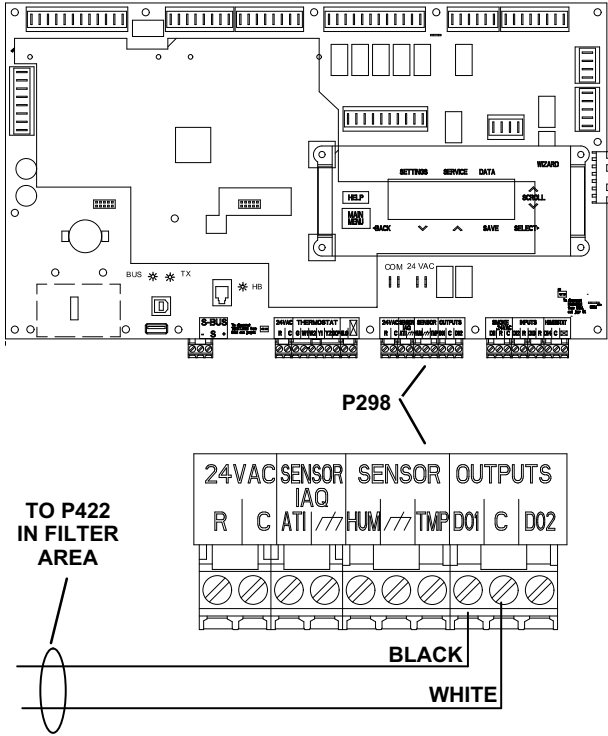

FIGURE 10
- 3- Strip and connect the cut wires to P298 terminals D01 and C on the M3 Unit Controller. See figure 10.